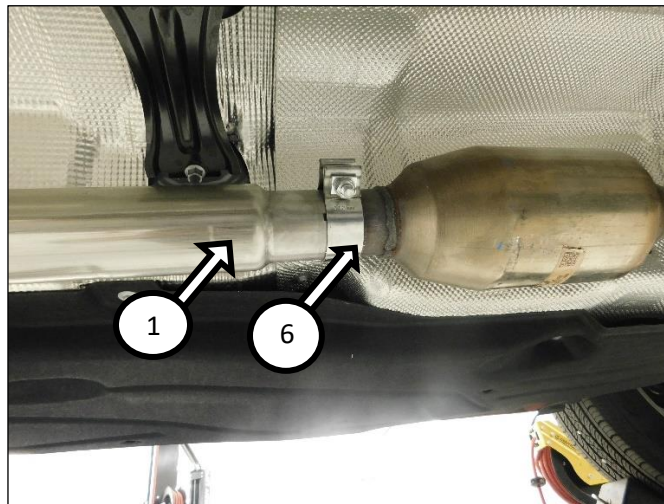

Figure 4
1. Install the supplied 63mm band clamp **(6)** into the reduced end of the muffler inlet pipe **(1)** with the bolt to the inside and nut facing down **(Fig. 4)**.